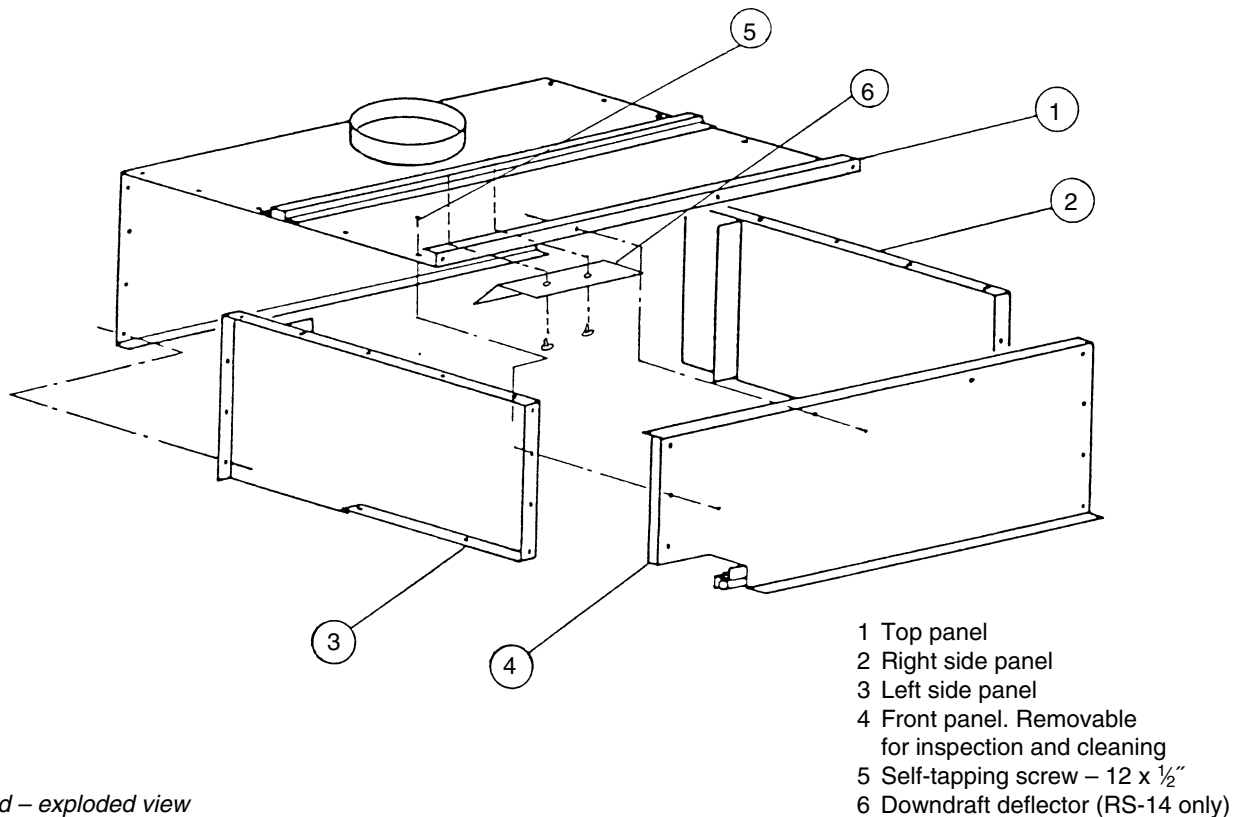

Fig. 6
2.4.1 Assembly (see Figs. 6, 7, 11, 23, 26)
The draft hood is made up from four separate panels, refer to Fig. 6